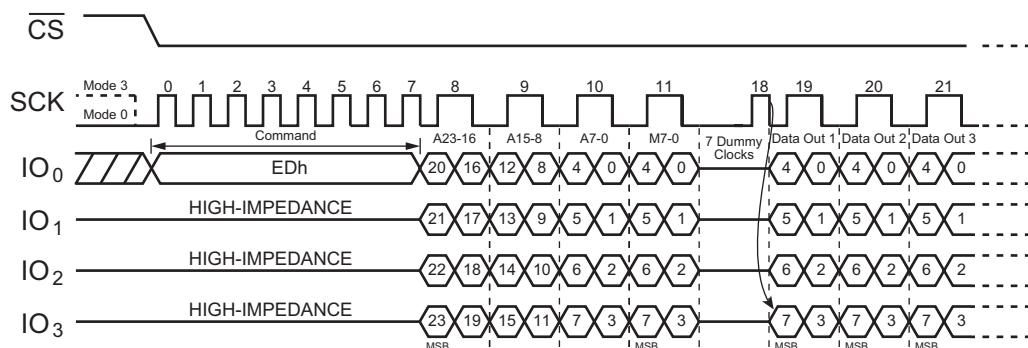
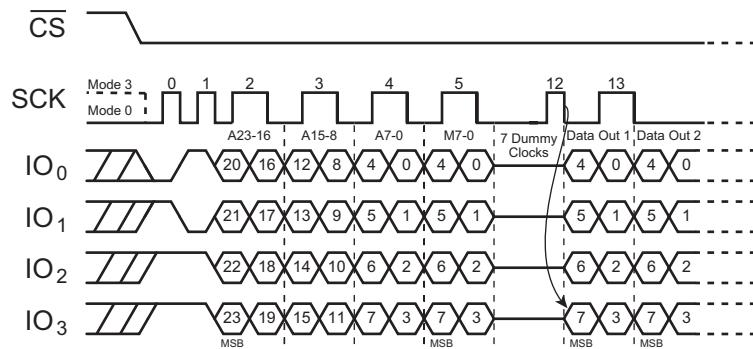
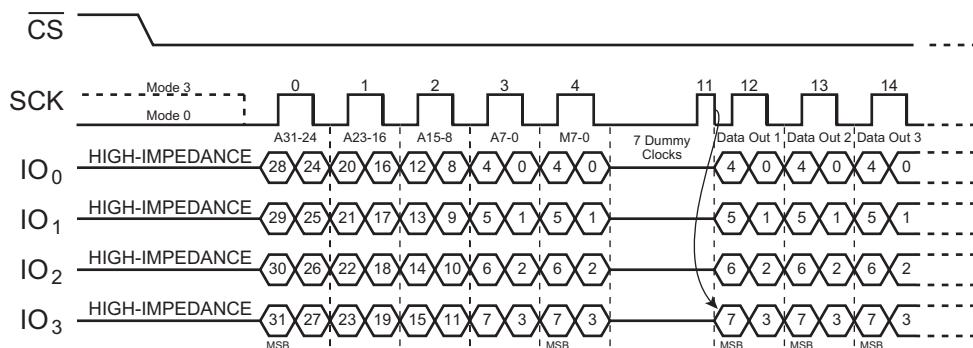

Figure 53. DTR Fast Read Quad I/O (SPI Mode, Three-Byte Address Mode; Initial command or previous (M5-4 ≠ (1,0)))
Figure 57. DTR Fast Read Quad I/O (QPI Mode, Three-Byte Address Mode; Initial command or previous (M5-4≠(1,0)))
Figure 60. DTR Fast Read Quad I/O (QPI Mode, Four-Byte Address Mode; Initial command or previous (M5-4=(1,0)))
The DTR Fast Read Quad I/O (EDh) command is similar to the Fast Read Dual I/O (BBh) command, except that address and data bits are input and output through four pins: IO0, IO1, IO2, and IO3; also, four Dummy clocks are required in SPI mode before the data output, as shown in Figure 53 to Figure 60. The Quad Enable bit (QE) of Status Register must be set to enable.
The DTR Fast Read Quad I/O command is also supported in QPI mode, as shown in Figure 57 to Figure 60. In QPI mode, the Continuous Read Mode can further reduce command overhead by setting the Continuous Read Mode bits (M7-0) after the input Address bits (A23/31-0). See the description on previous pages. If the Continuous Read Mode bits (M5-4) = (1,0), the next Fast Read Quad I/O command (after CS is raised and then lowered) does not require the EDh opcode. If the Continuous Read Mode bits M5-4 do not equal (1,0), the next command requires the first EDh opcode, thus returning to normal operation. A Continuous Read Mode Reset command can also be used to reset (M5-4) before issuing normal command.